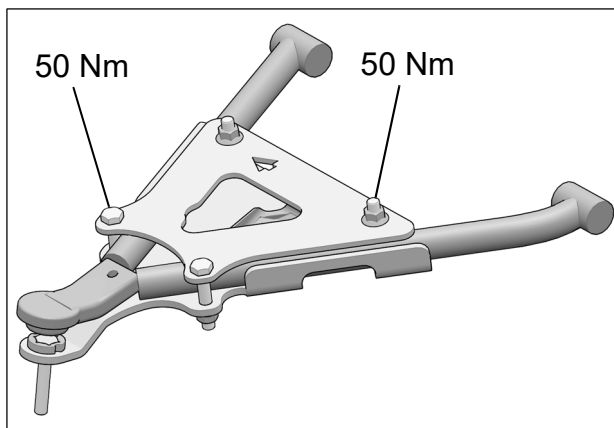

Fig. 17
8. Make sure that the anchor bracket is correctly positioned and tighten bolts to 50 N•m [37 lb•ft] of torque. See Fig. 17